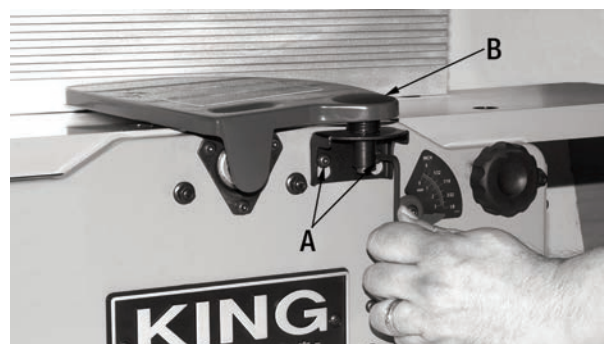

FIGURE 14
- 1) For unobstructed access to the cutterhead, use the supplied hex. key to loosen the round head allen screws (A) Fig.14 that secure the cutterhead guard (B) to the front of the jointer, then remove and set aside the cutterhead guard assembly.